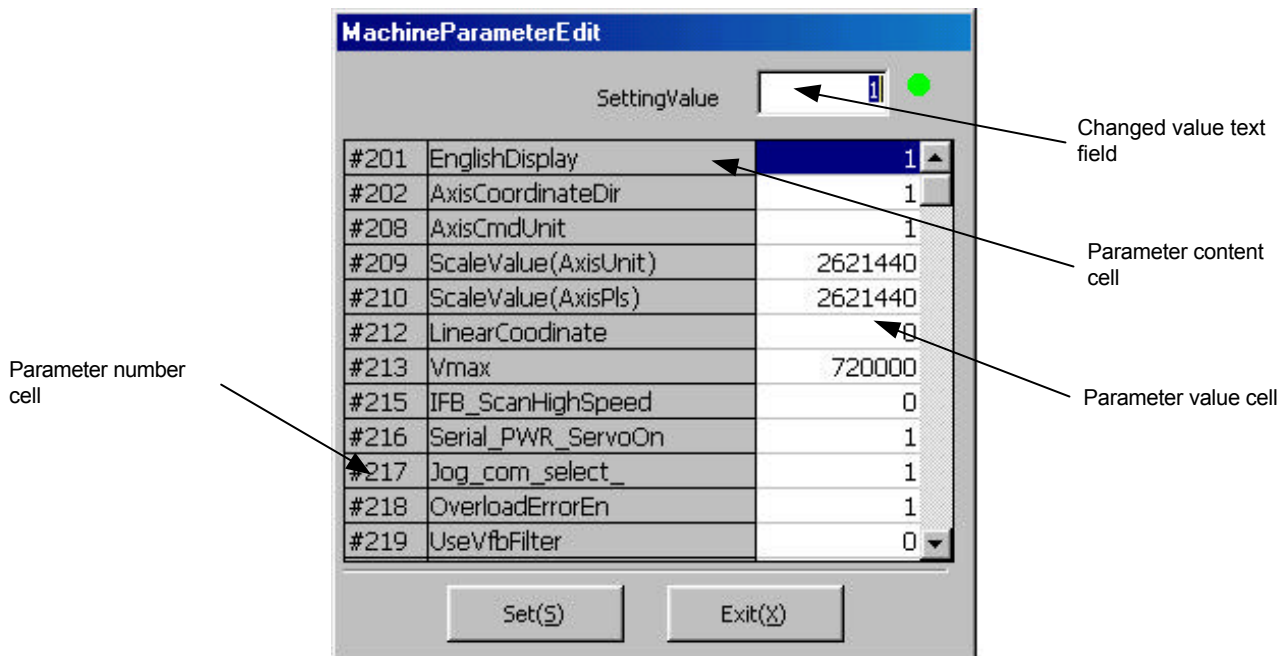

Figure 7.28 “MachineParameterEdit” dialog box
Click “*Machine Parameter Edit (M)*” in the “Parameter Manager” dialog box to display the “MachineParameterEdit” dialog box (see Figure 7.28). If the connection with the driver is established, the current values of the machine parameters are read and can be edited.